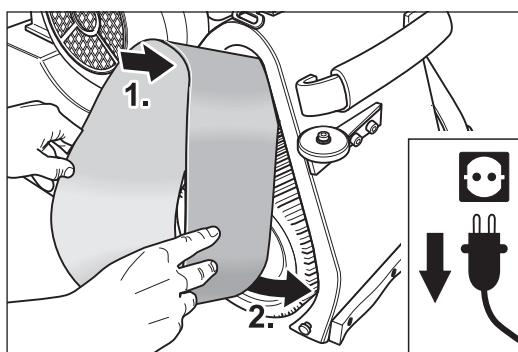
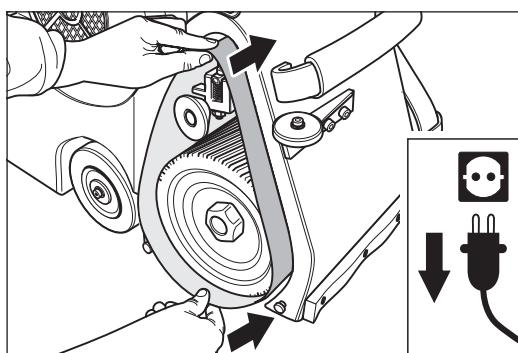

Fig. 8 Position the sanding belt on the tensioning roller of the drive unit.
Fig. 9 Push the sanding belt over the tensioning roller and sanding drum.
- 9 Position the sanding belt on the tensioning roller of the drive unit (Fig. 8) and push it over the sanding drum (Fig. 9).